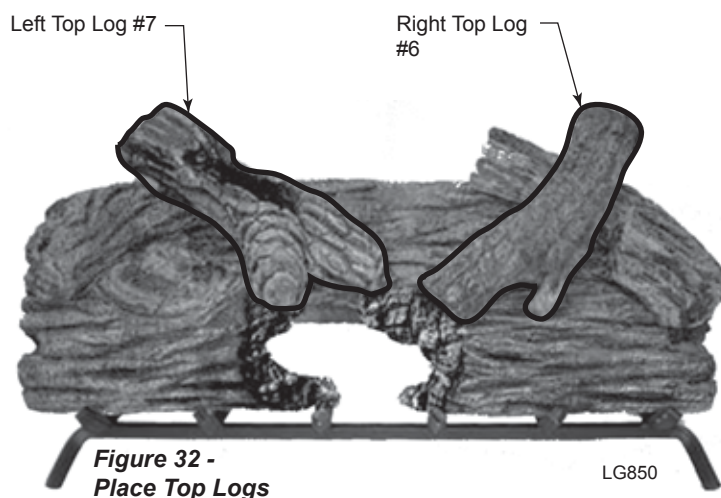

**Figure 32 -
7. Place right top log #6 as shown. *Figure 32*
8. Place left top log #7 as shown. *Figure 32*